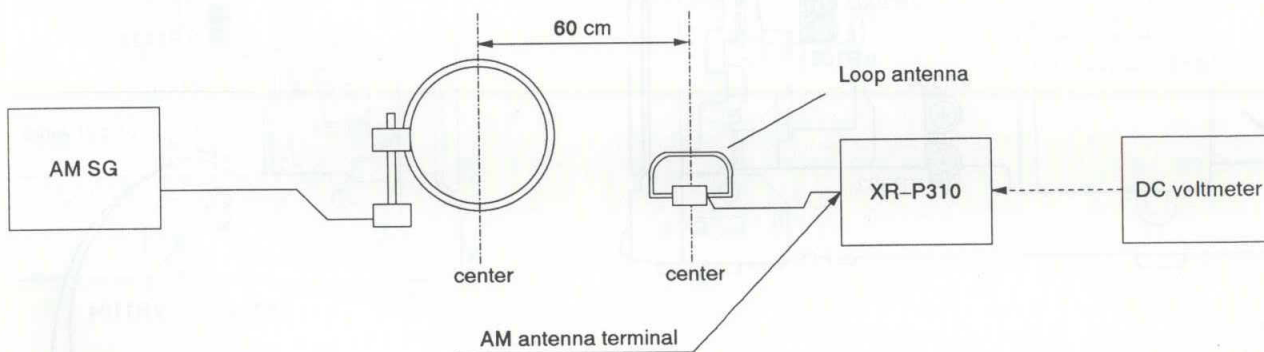

Fig. 8-2. AM Adjustment Connection Diagram
- Connect as shown in Fig. 8-2.